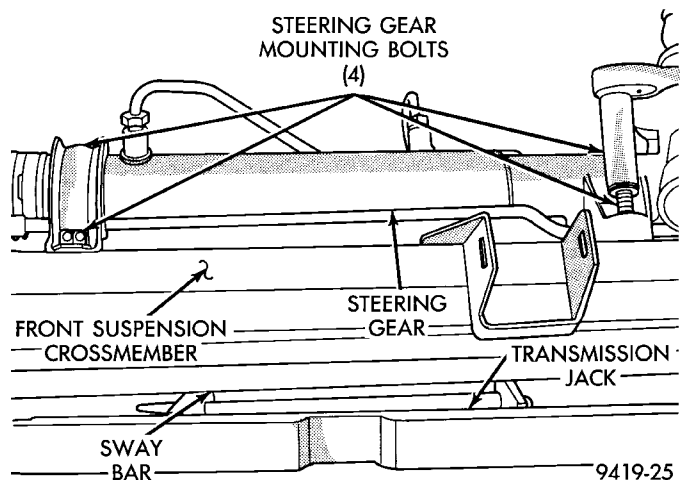

Fig. 15 Steering Gear Assembly Mounting Bolts
(14) Loosen and remove the 4 bolts (Fig. 15), attaching steering assembly to front suspension crossmember. Then remove the steering gear assembly from the front suspension crossmember.
(15) Transfer required parts from removed steering gear assembly to the replacement steering gear, if a new steering gear is being installed.
(1) Install steering gear assembly on front suspension crossmember. Install the 4 steering gear assembly to front crossmember mounting bolts (Fig. 15). Torque the 4 steering gear mounting bolts to 68 N·m (50 ft. lbs.).